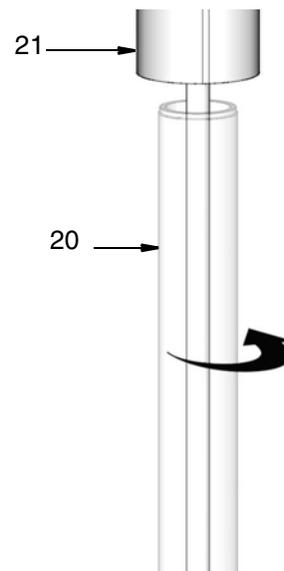

FIG. 15
6. Apply a thin layer of grease to piston seal (22*). Reinstall down tube (20) into pump base (21). Torque to 100 to 150 ft-lb (135.6 to 203.4 N•m) (FIG. 15).